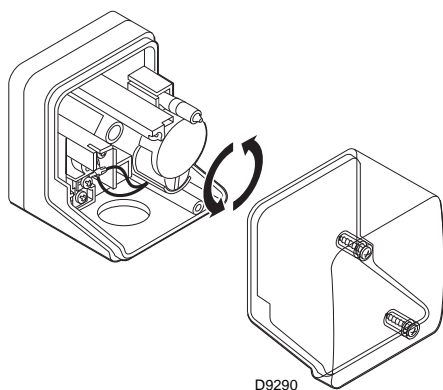

Fig. 39
- Adjust the minimum gas pressure (Fig. 39) switch to the start of the scale.